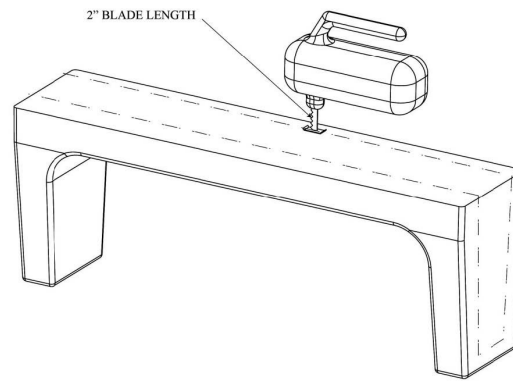

FIGURE 5
- Cut the CleanCut Ultra-Low to fit the cut-out tub opening using a jigsaw (Figure 5). Fasten Velcro-stripping on both sides of the jigsaw to prevent making any unwanted marks on the CleanCut Ultra-Low. It is important that a 2" blade is used to cut out the CleanCut Ultra-Low so as to prevent accidentally cutting through the top of the CleanCut Ultra-Low. Snap off any excess length on the stock jigsaw blade beyond 2".